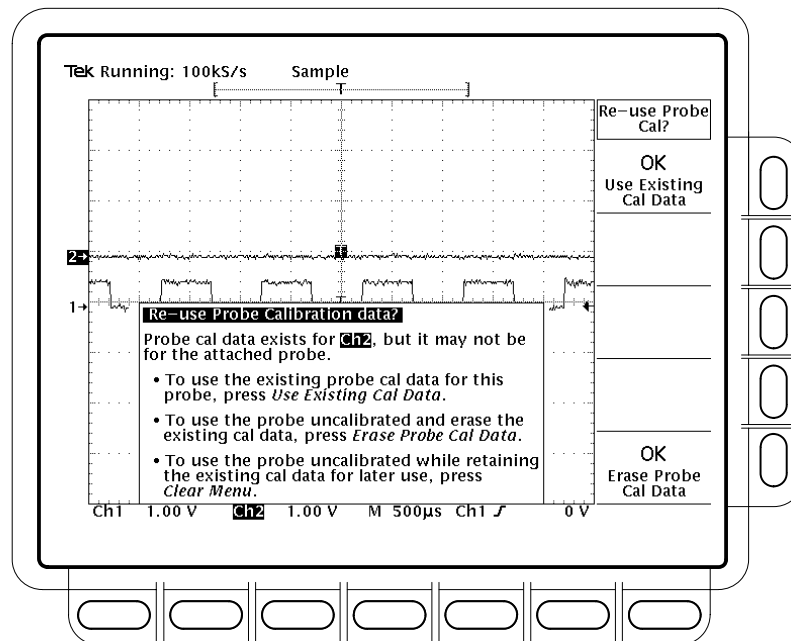

Figure 3–74: Re-use Probe Calibration Data Menu
- If a probe has a simple oscilloscope interface and the probe attenuation factor is the same as was stored at the last Probe Cal, the oscilloscope cannot determine whether it is the same probe. Therefore, it displays the *Re-use Probe Calibration data?* menu. (See Figure 3–74.)